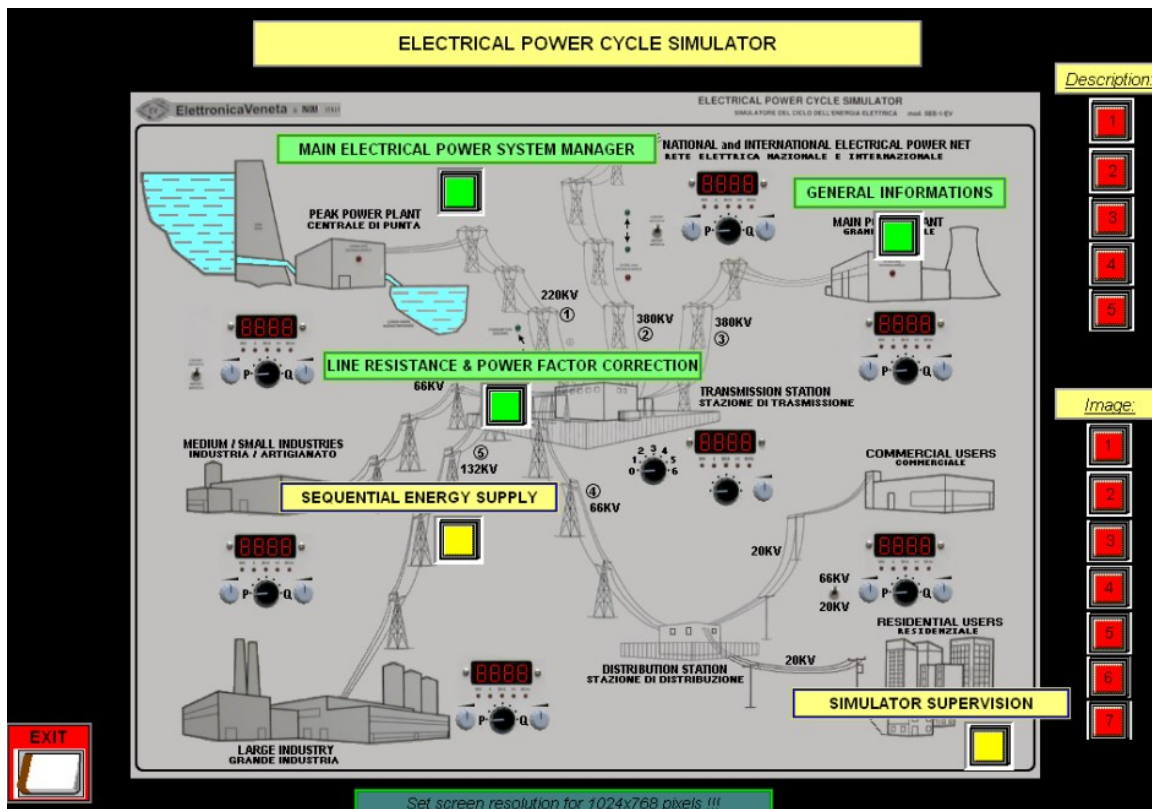

Figure 9.2 Electrical power cycle simulator
7. After the program has started, the screen showing the drawing of the Simulator in the background will be displayed in Figure 9.2